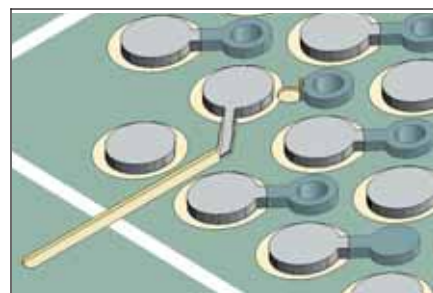

Figure 2 Remove BGA pad & mill shallow channel into solder mask surface.
4. Remove the existing BGA pad. Apply heat from a soldering iron if needed. (See Figure 2.)